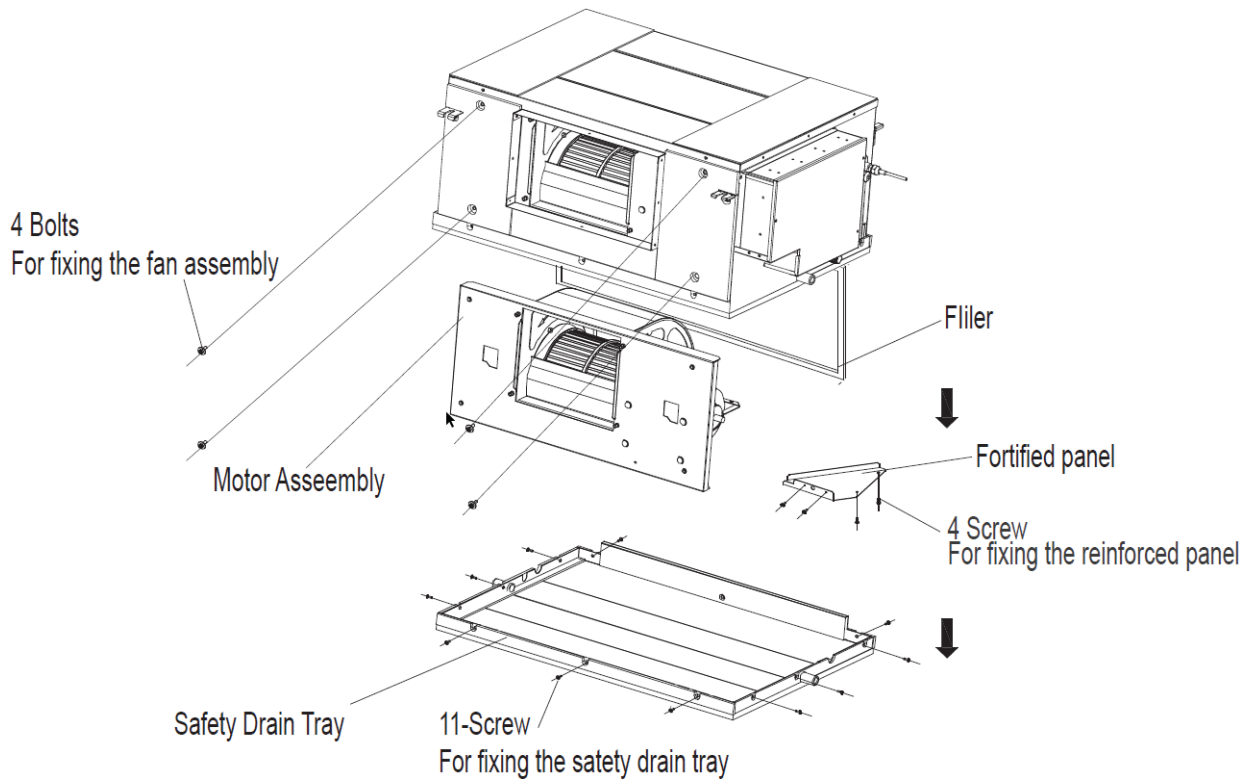

Fig. 30 —Fan Disassembly (009-024)
1. Horizontally push the fan assembly until it cannot move any further. See Fig. 30.